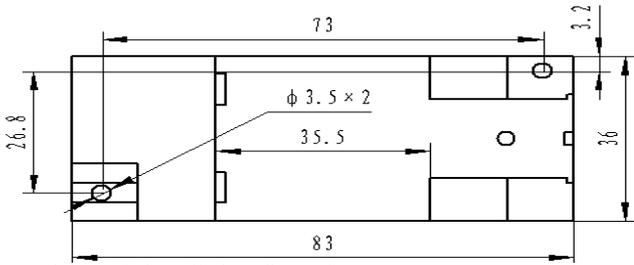

Figure 10, installation dimensions
- ① The transducer fixed on the side of the card slot and hook on the mounting rail;
- ② Pull the spring pin down;
- ③ Clip the transducer mount on the mounting rail;
- ④ Release the spring pin and clip the transmitter on the mounting rail.
- ① M3 diameter hole in the fixed plate according to the screw hole position shown in Fig. 10;
- ② Use the screw smaller than $\Phi 3.5$ to insert into hole to secure it.